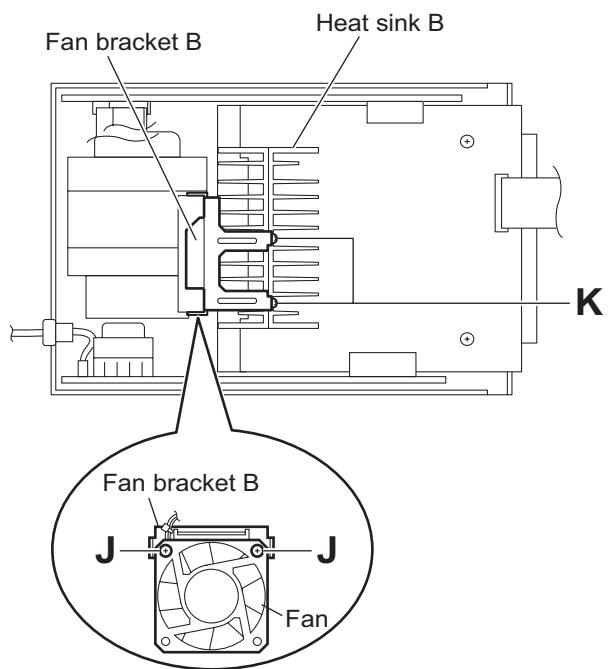

Fig.16
(2) From the back side of the main body, remove the two screws **J** attaching the fan to the fan bracket B. (See Fig.16.)
When removing the fan with the fan bracket B, remove the two screws **K** attaching the fan bracket B to the heat sink B. (See Fig.16.)